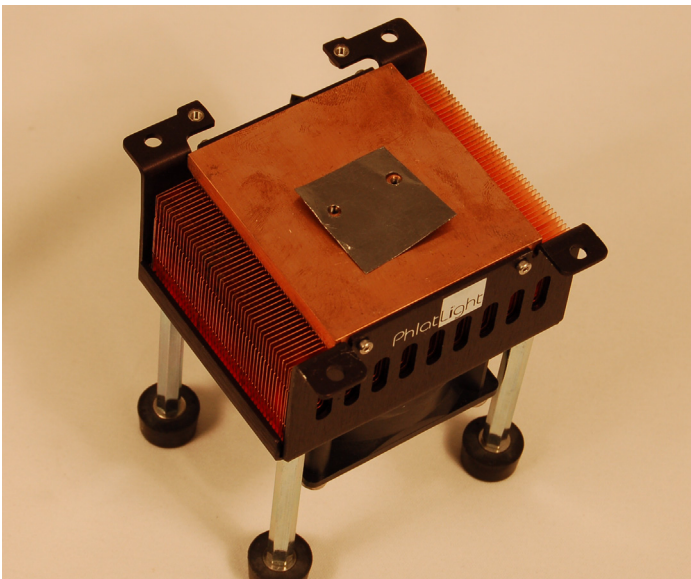

Figure 11: Thermal pad on heat sink
- Place the thermal pad on the heat sink with pre-drilled holes matching the hole pattern on the core board of the device (Figure 11).